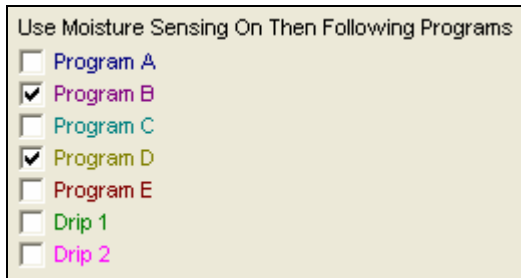

Figure 16.4.37B
- Place a check in each program box that you want to use moisture sensors on (Figure 16.4.37B).